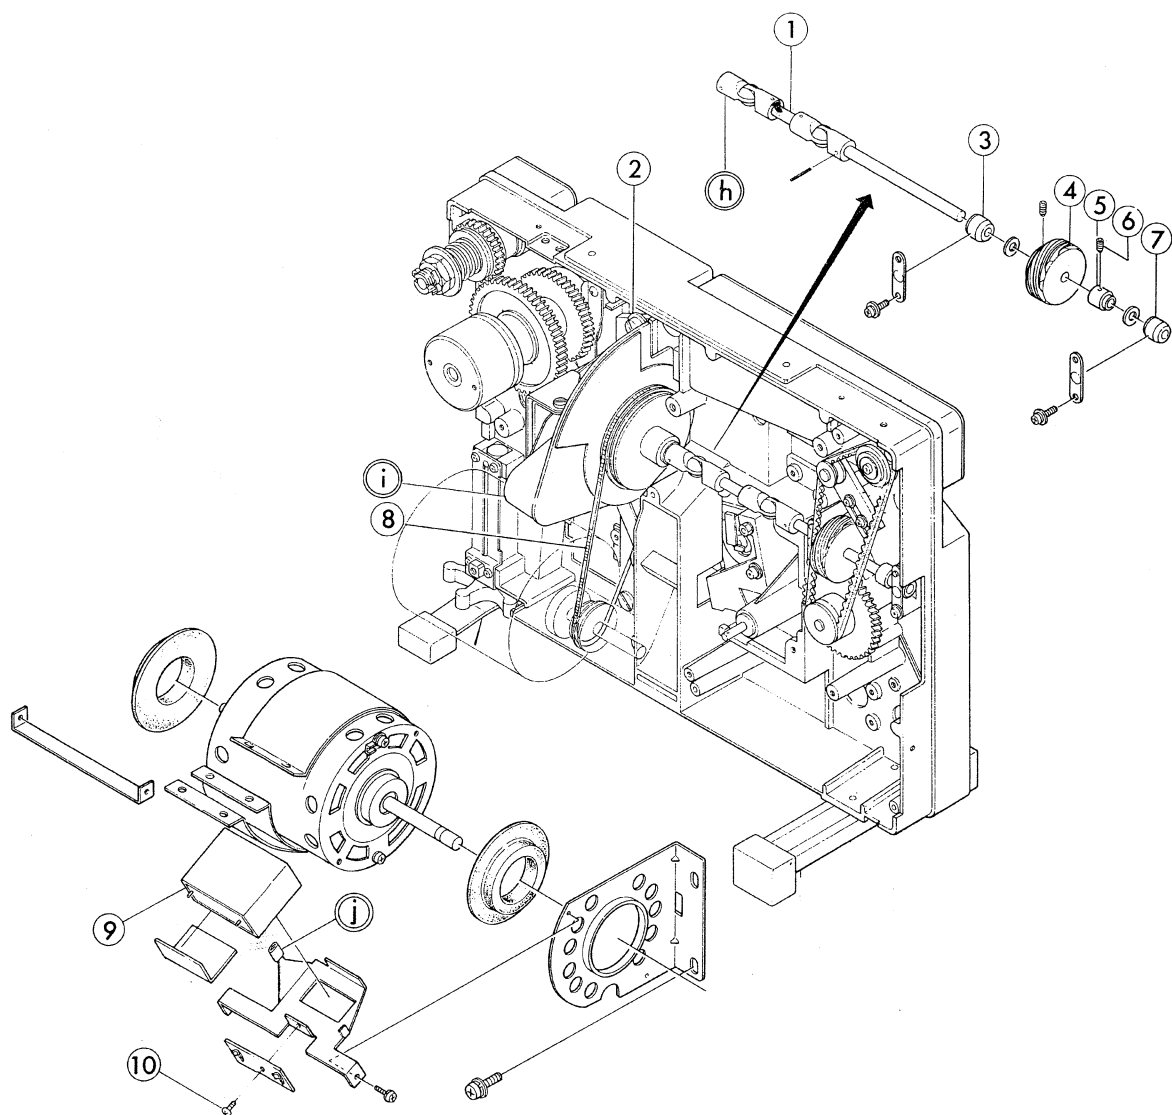

Fig. 11
- (2) After (j) in Fig. 11 is raised up, remove Fig. 11-9 by detaching Fig. 11-10.
- (4) Remove Fig. 11-8 from (i) in Fig. 11.
- (5) Set Fig. 1-10 at "9" position and remove (i) in Fig. 11 by detaching Fig. 11-2x2.